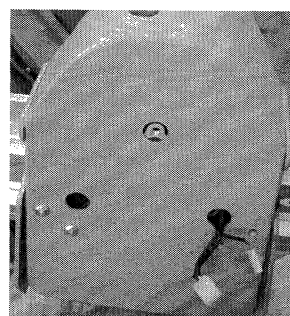

Fig. 10
- l. Place plastic plug in open hole. Hand change is complete (Fig. 10).